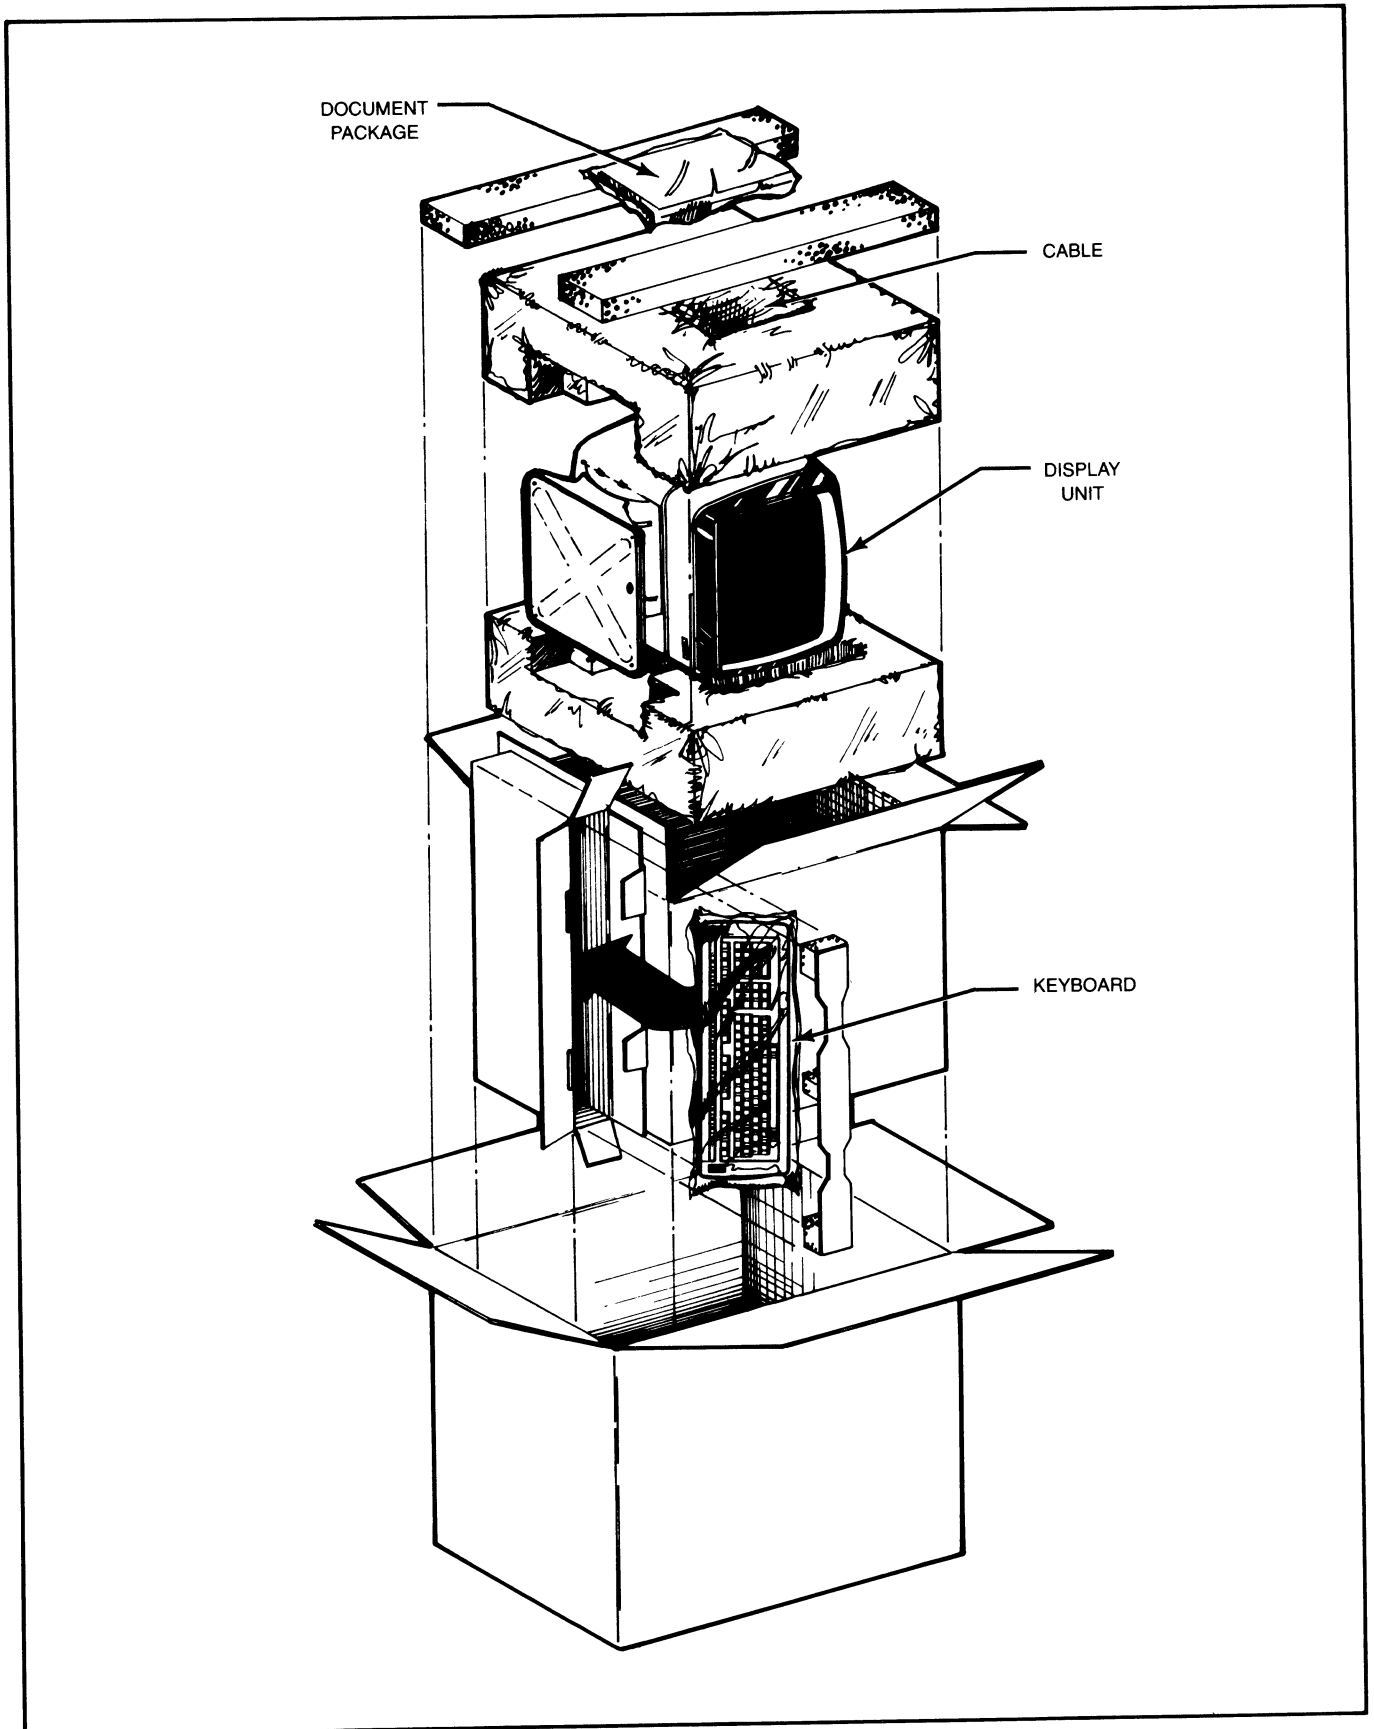

Figure 4-2. Display Unit and Keyboard Packing/Unpacking
The D210/211 terminal display unit and keyboard are packed as shown in Figure 4-2. Perform the following steps to unpack and inventory the terminal equipment:
3. Using Figure 4-2 as a guide, unpack the display unit, keyboard, communications cables, and documentation.
NOTE: *Save the packing material in case reshipment of the terminal becomes necessary. Otherwise, Figure 4-2 must be used as a guide in replacing packing material for shipping purposes.*